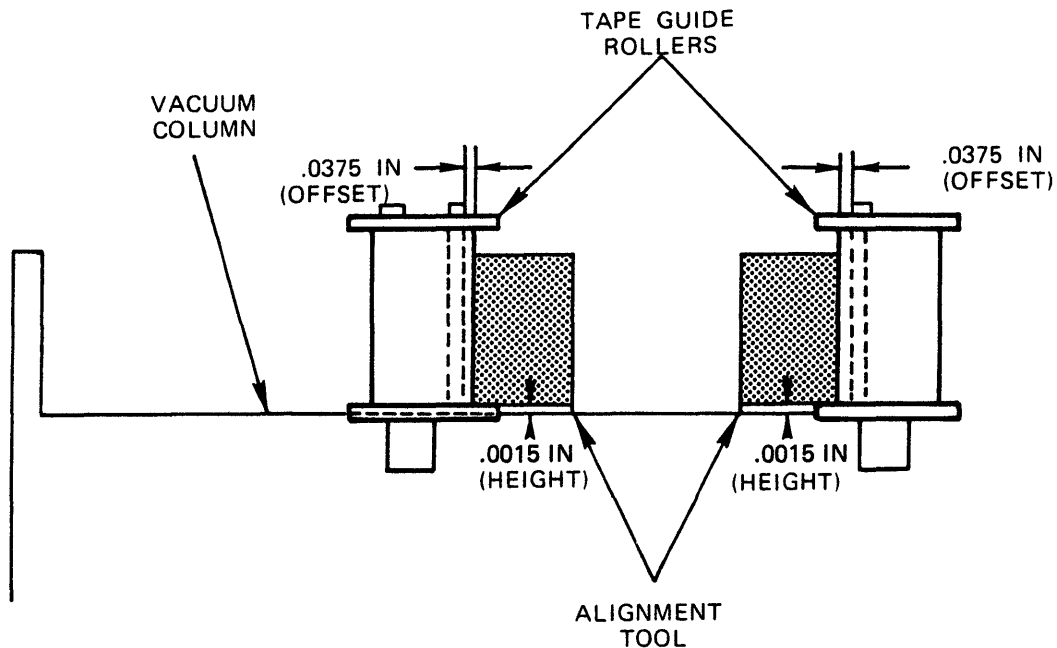

Figure 5-10. Fixed Tape Guide Alignment Tool Positioning
- e. Measure the distance between the edge of the tool and the top of the fixed guide with a feeler gauge. Refer to figure 5-10. The fixed tape guide should be .003 to .0035 inches below the flat edge of the alignment tool.